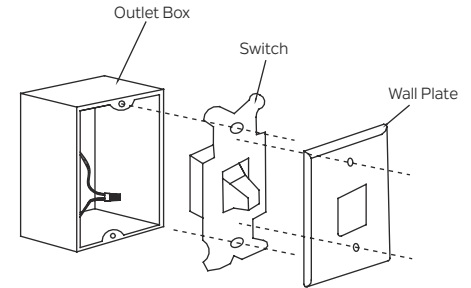

Fig. 22
**Step 1.** Remove the existing wall plate and the old switch from the wall outlet box. Wire the BLACK leads (hot) together with connector and push back inside the outlet box. (Fig. 22)